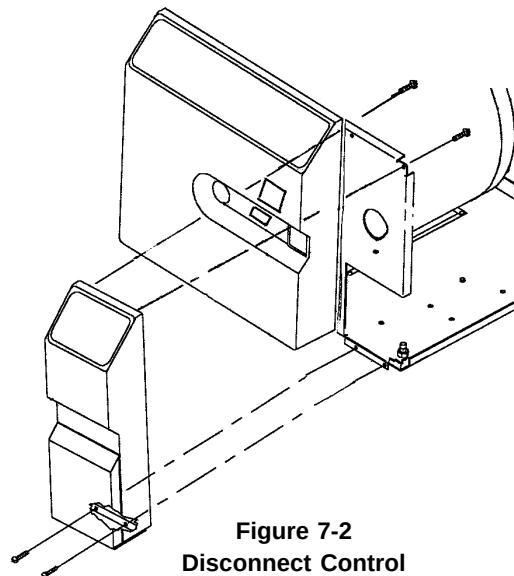

Figure 7-2
3. Remove four screws securing control assembly to the front of the unit (Figure 7-2).